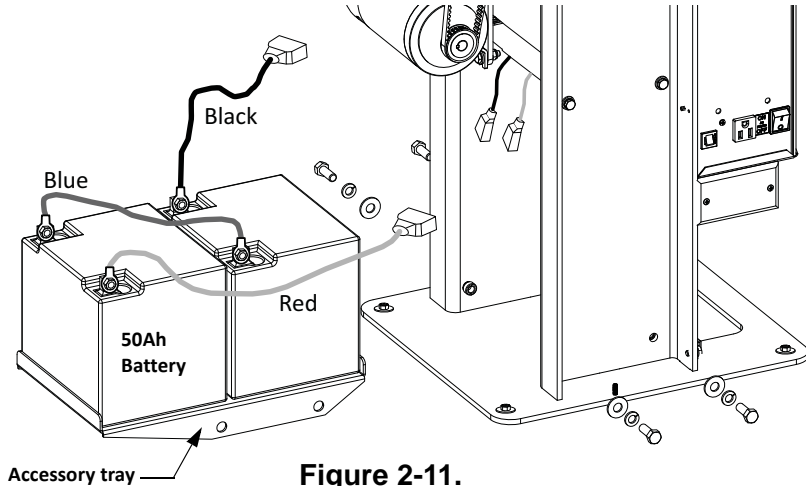

Figure 2-11.
7. Place the 50Ah battery tray between the chassis posts and secure it using the four fasteners provided in the kit. See Figure 2-11.